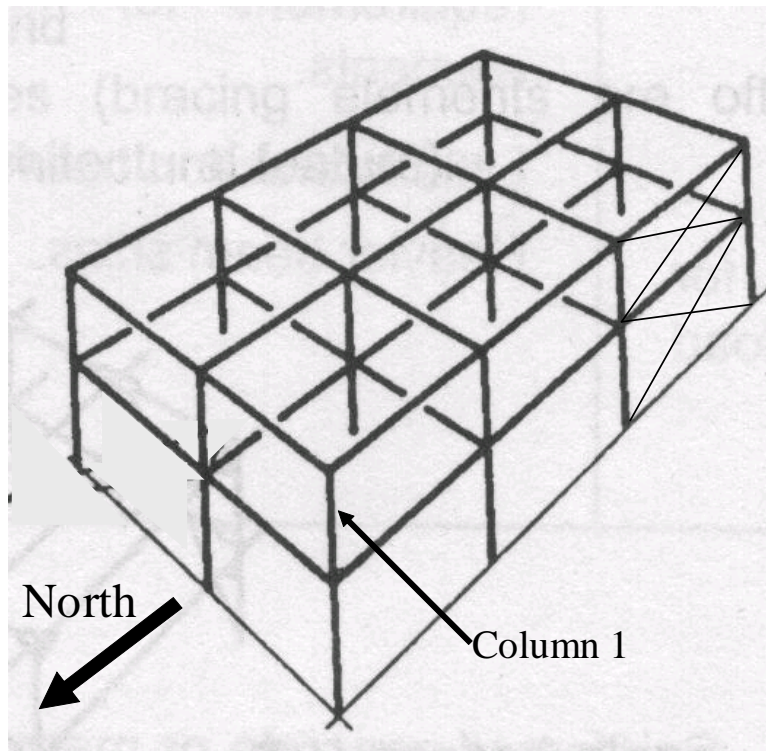

Figure 2
- b) Consider the frame shown in Figure 2. All columns are 200UC59.5 and all beams are 250UB37.3 in Grade 300 steel. The columns are 3.5 m apart in the north-south and 4 m apart in the east-west directions and each storey is 4 m in height. The beam column connections in the north-south direction are flexible, and the connections are rigid in the east-west direction. There is cross bracing in the north-south direction. The column base plate connections should be considered as pinned in both directions. The webs of all columns are oriented east-west and all beams are oriented such that the flanges are horizontal.